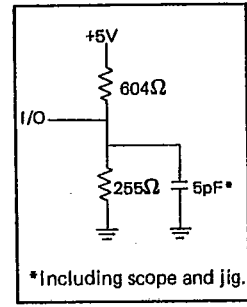

Figure 2.
- 2. The parameter is tested with the load in Figure 2. The transition is measured at  $\pm 200\text{mV}$  from steady state voltages.